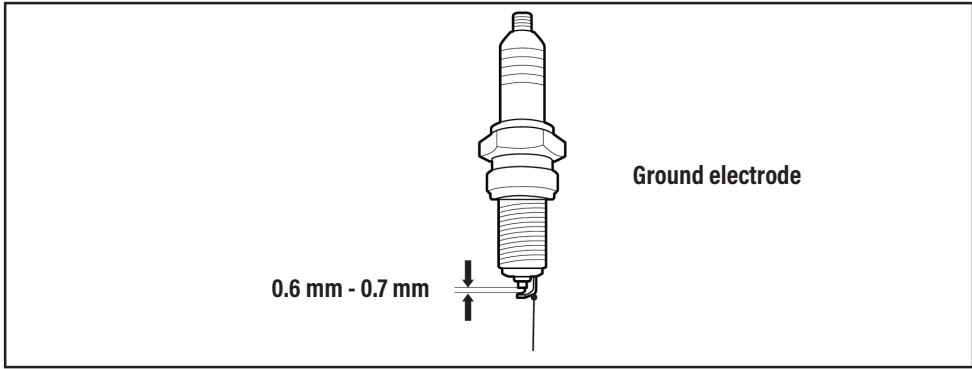

Fig. 18
6. Check the spark plug gap. It should be 0.6-0.7 mm (Fig. 18).